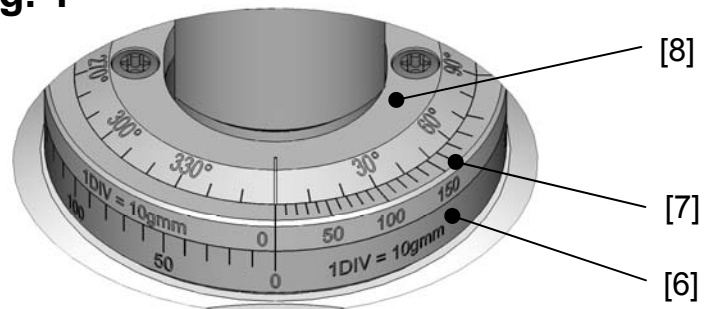

Fig. 2
4. Fig 2: Loose tightening screw [9], set imbalance value 70gmm on adjustment ring [6] to 0gmm on the adjustment ring [7].